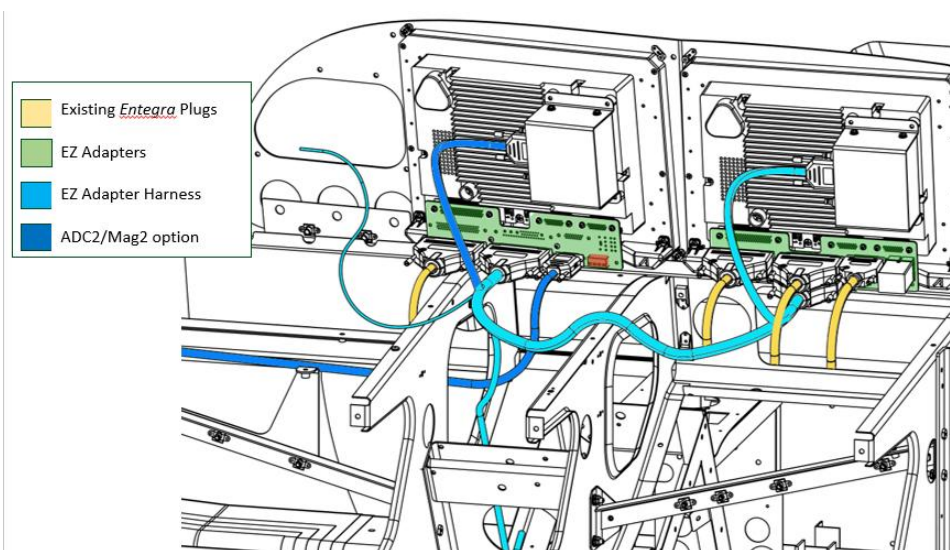

Figure 4-22: EZ Adapter Harness Connection
8. Install the EZ Adapter harness P5 connectors (P5) to the respective EZ adapter connectors (PFD or MFD) as pictured in blue, Figure 4-22.